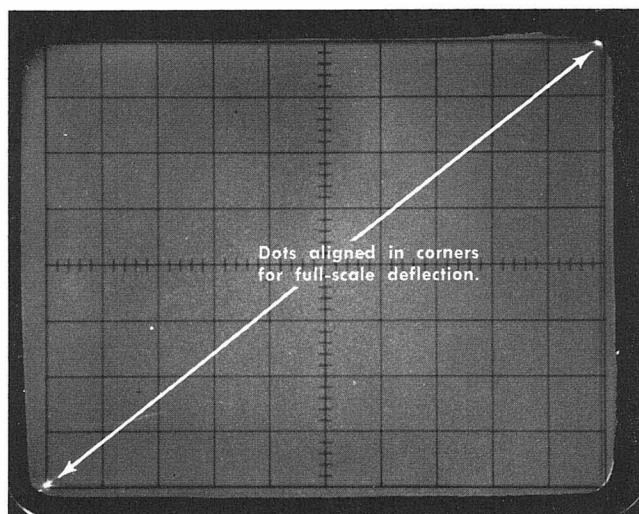

Fig. 6-12. Typical display when checking X and Y Gain.
c. Adjust R24, X Gain, so that one dot touches the left-hand graticule edge and the other dot touches the right-hand graticule edge. Adjust the X Position control as necessary. See Fig. 6-12.